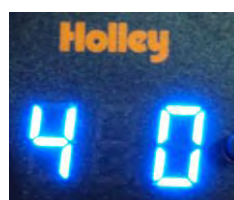

Figure 7
6. **SETTING 4** – This setting is used for the LED Bar Mode (BLUE – GREEN – YELLOW – RED). You can choose from 8 options - **0** = Dot mode, **1** = Standard Bar, **2** = Split Bar Type #1 (would be used for a Boost/Vacuum display), **3** = Split Bar Type #2, **4** = Split Bar Type #3, **5** = Reverse Bar, **6** = Wide Dot, **7** = Bar/Junction Mode #1, **8** = Bar/Junction Mode #2. **Figure 7** shows that this is the 4th setting and Dot Mode was chosen.